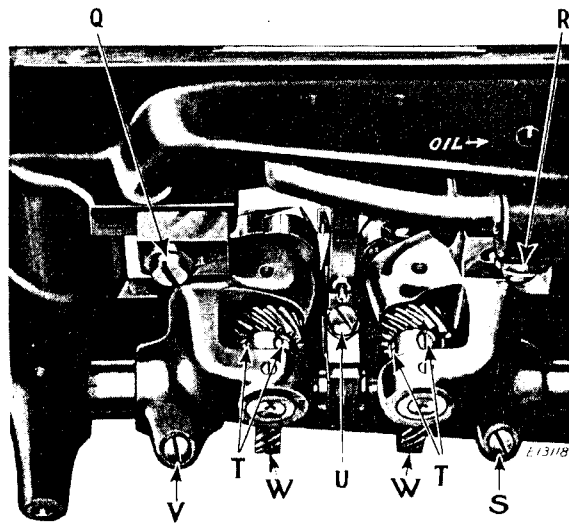
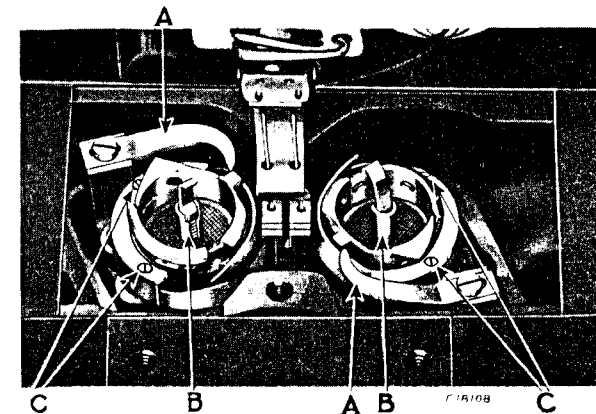
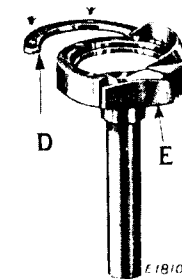

Fig. 18. Adjustment of Hook Saddles
Fig. 19. Removing Bobbin Case Bases
Fig. 20. Sewing Hook Removed from Machine Showing Hook Washer
Loosen the two screws in the hub of the hook driving gears (W, Fig. 18) and tap these gears to the right or left on the hook driving shaft until the point of each hook is at the center of its needle. Tapping to the right gives an earlier hook timing, and to the left a later hook timing. Securely tighten the two set screws in each gear.
Turn the machine pulley over toward you until the points of the sewing hooks are at the centre of the needles. Loosen the four screws (Q, R, S and V, Fig. 18) underneath the bed of the machine and move the hook saddles to the right or left, as may be required, until the points of hooks are as close to the needles as possible without striking them, then securely tighten the four screws (Q, R, S and V).
The function of the hook washer (E, Fig. 20) (which is attached to the bottom of the sewing hook), is to prevent the point of the hook from striking the needle, if, when passing through the material, the needle is deflected towards the hook.
Remove the four hook gib screws (C, Fig. 19) from the sewing hooks, lift off the hook gibs (D, Fig. 20) and remove the bobbin case bases (B, Fig. 19).
Remove the throat plate, feed dog and the two bobbin case opening levers (A, Fig. 19). Also remove the bobbin case bases as instructed above, then take out the four screws (T, Fig. 18) from the hook shaft gears and lift out the sewing hooks.
Remove the throat plate; clean the lint and dust from between the feed points and replace the throat plate; tip the machine back and turn the machine pulley towards you until the feed dog is at its highest position; loosen screw (U, Fig. 18) in the feed lifting eccentric fork and raise or lower the feed dog, as may be required, then retighten the screw (U).